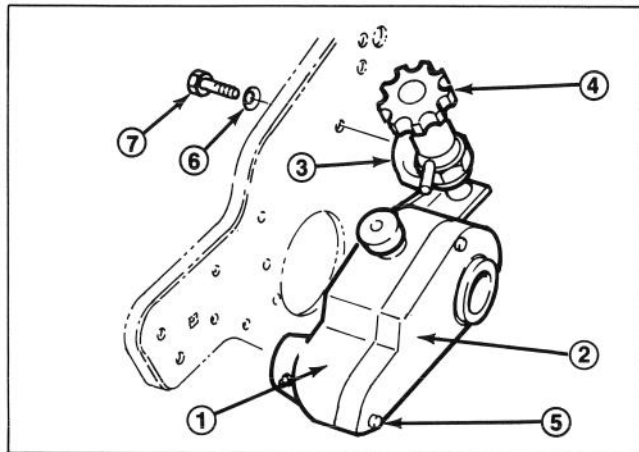

Figure 3
- A. Remove (3) socket head capscrews and lock washers securing cover to groomer housing assembly (Fig. 3).
8. Mount groomer adjustment knob assembly to left side of plate with a 3/8-16 x 5/8" lg. capscrew and belleville washer. Reinstall left bedbar adjuster frame to side plate with capscrews and washers previously removed (Fig. 3).